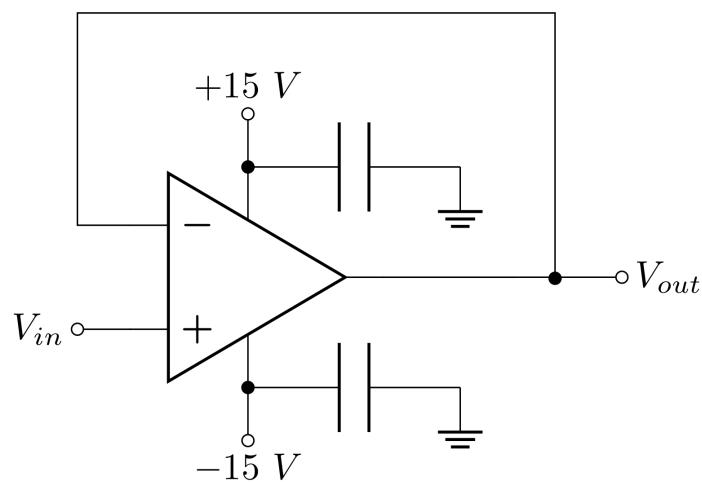
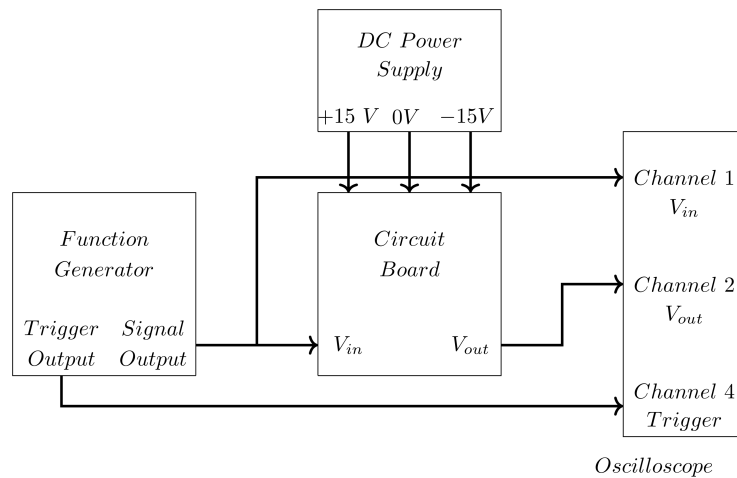

Figure 7: Voltage follower
Figure 8: Test and measurement setup for op-amp circuits
1. The voltage follower circuit is nearly the same as the test circuit, except that now a signal enters the positive input (Figure 7). The basic test and measurement setup is shown in Figure 8.